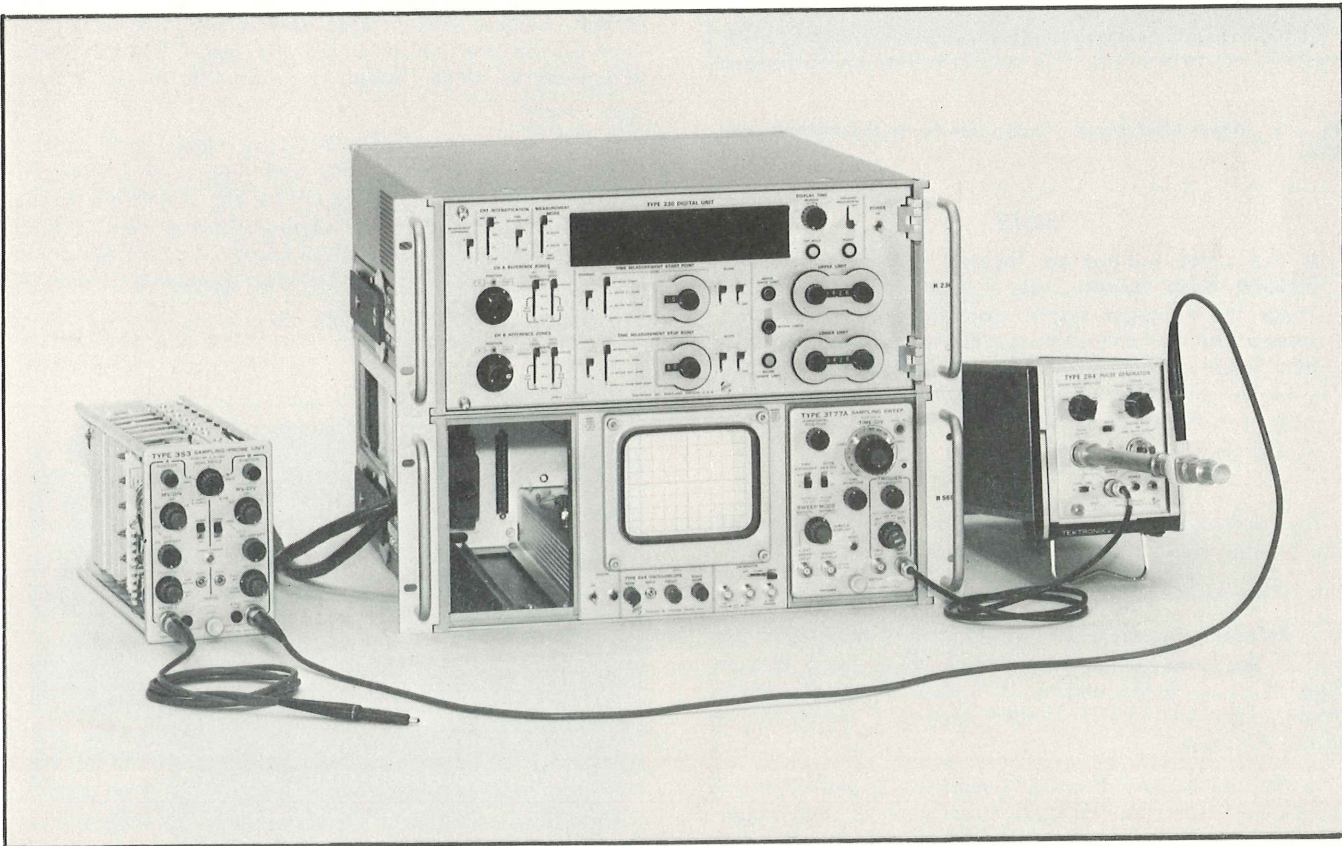

Fig. 5-2. Equipment set-up for the Preliminary Procedure.
Connect in this order to the Type 284 Pulse Output Terminal: a 20 cm air line, a VP-2 and a 50 Ω termination. See Fig. 5-2.
Set all of the controls as instructed in the Control Settings Chart following Fig. 5-2.
- a. Make all connections and control settings as instructed in the Preliminary Procedure. See Fig. 5-2.